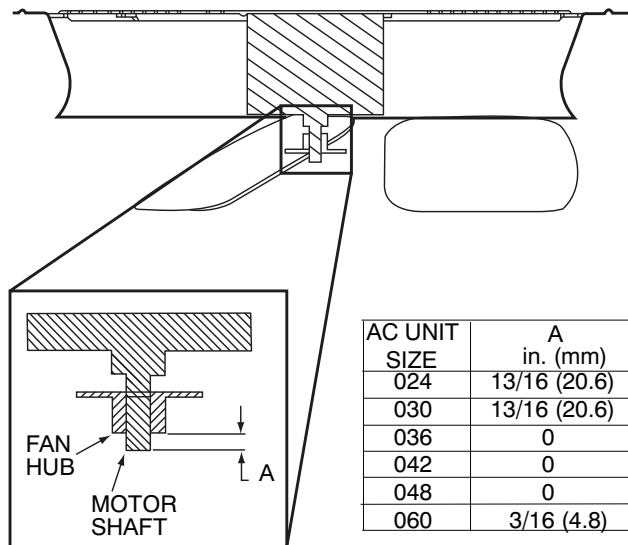

Fig. 16 – Outdoor Fan Adjustment
5. When replacing fan blade, position blade as shown in Fig. 16. Tighten setscrews.